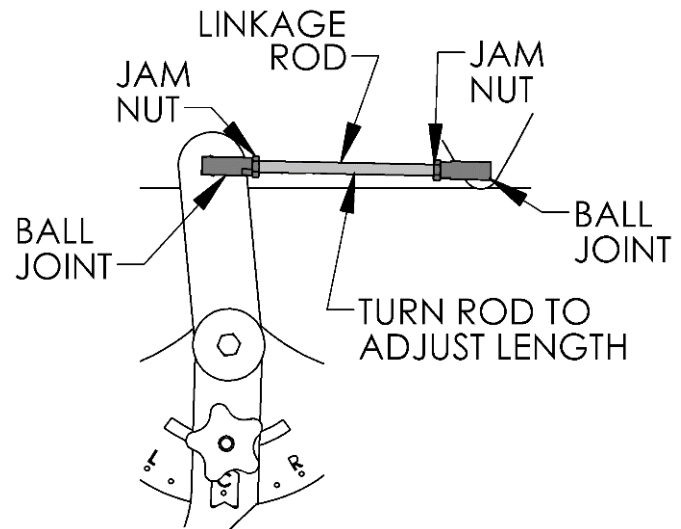

FIGURE 15.3
- 4) Go back to the Offset Control Handle and locate the Linkage rod as shown in **FIGURE 15.3**.